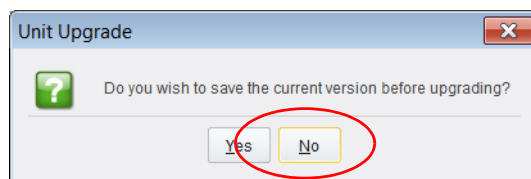

Fig. 10-10: Unit Upgrade Dialog - Click NO
- 7 Click **No** in response to the question in the dialog (Figure 10-10).
Note: (Figure 10-10) "Do you wish to save the current version before upgrading?"
Click **No** in response to the message box shown in Figure 10-10.